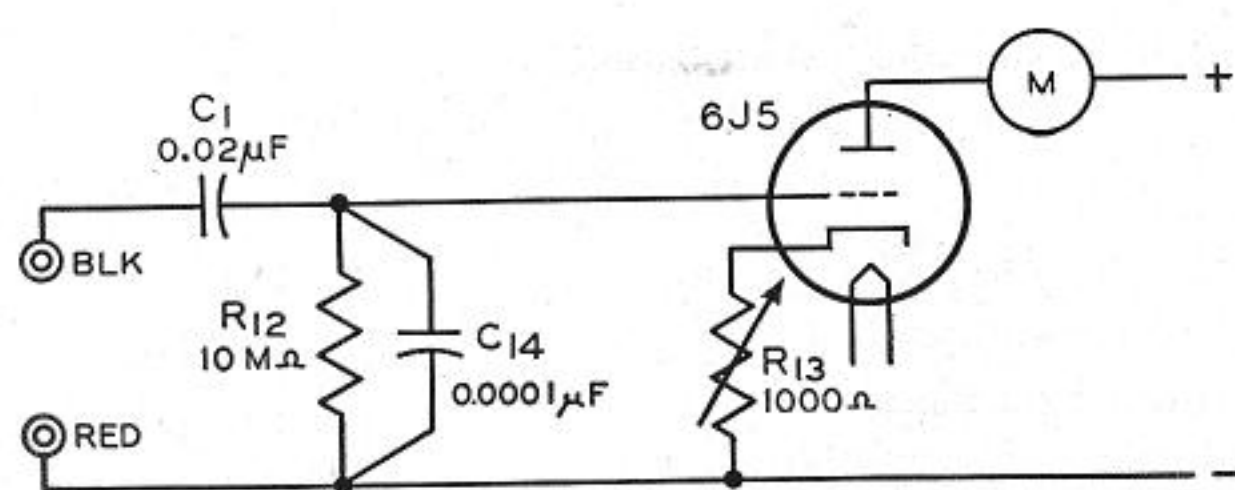

FIG. 10—A-C VACUUM TUBE VOLTMETER CIRCUIT
3.6.1 The a-c vacuum-tube voltmeter may be used as an audio output indicator for output alignment. Figure 10 shows the circuit to be essentially that of a simple triode detector with a milliammeter in the plate circuit. As the signal strength increases, the plate current drops off in accordance with the tube characteristics. Since tubes may not be uniform, each Exam-eter is individually calibrated. The meter has a range of approximately 5 to 50 volts a-c.